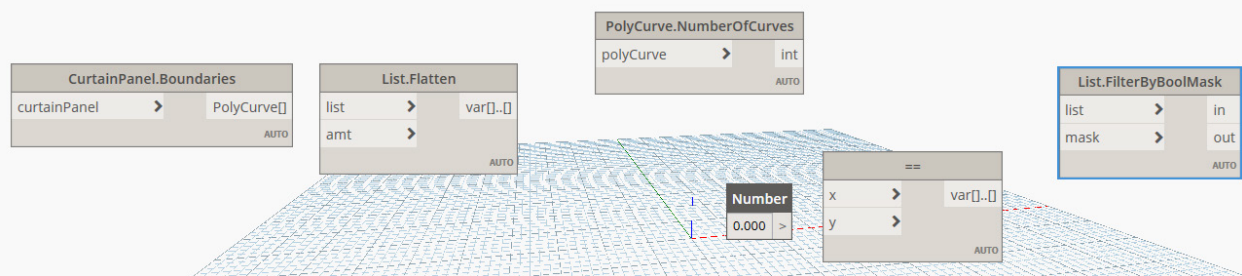

FIGURE 95
15. Position the nodes as shown in Figure 95.